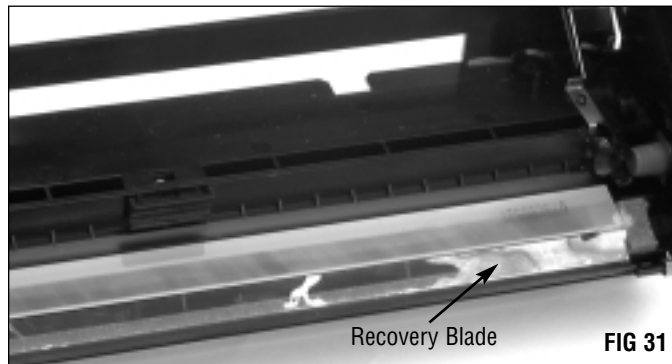

FIG 31
1. Install a replacement recovery blade (FIG 31).